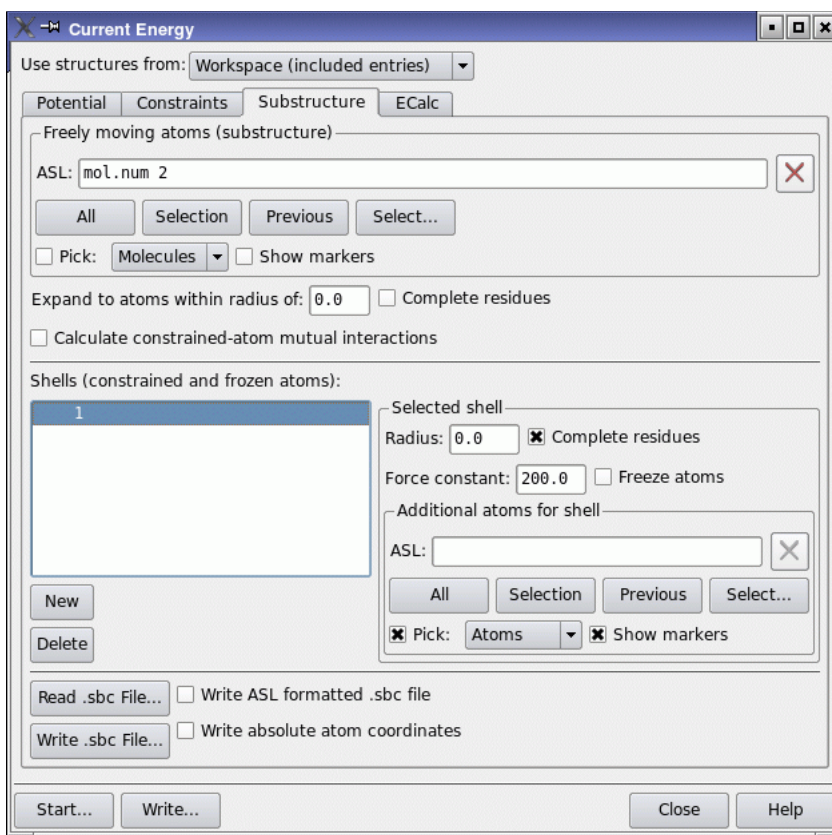

Figure 3.7. The Minimization panel showing the Substructure tab.
16. In the **Substructure** tab (see Figure 3.7), under **Atoms for substructure**, click **Select**.